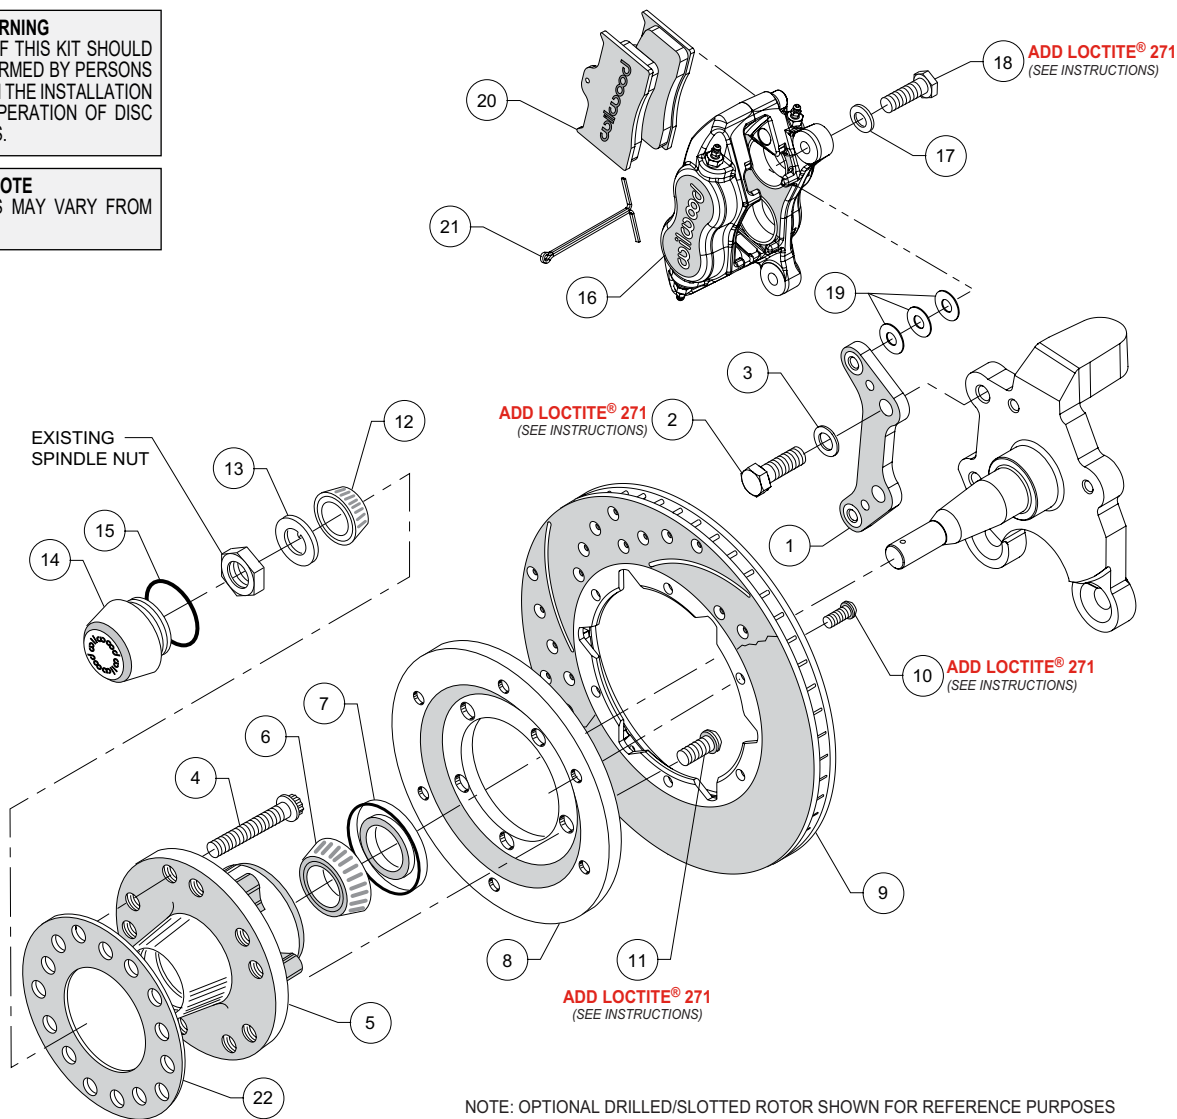

Figure 1. Typical Installation Configuration
NOTE: Numbers in parenthesis refer to the parts list and Figure 1 on the preceding pages.
•Align caliper mounting bracket (1) with the corresponding holes, to the face of the spindle. Attach using bolts (2), and washers (3), as shown in Figure 1 and Photo 1. Temporarily tighten the mounting bolts. Ensure that the flanged heads of the clinch nuts in the bracket are facing outboard, Photo 1. **NOTE:** The bracket must fit squarely against the mounting points on the spindle. Inspect for interference from casting irregularities, machining ridges, burrs, etc. Remove bolts one at a time, apply red *Loctite*® 271 to threads and torque to 77 ft-lbs.
•Install wheel studs (4) into the hub (5), Photo 2. Torque to 77 ft-lb. **NOTE:** There are two five lug patterns in the hub (5 x 4.50 and 5 x 4.75). Ensure the correct hub stud pattern is being used to fit the wheel application.
•Pack the large inner bearing cone (6) with high temperature disc brake bearing grease (available from your local auto parts store) and install into the backside of the hub (5), Photo 3.
•Install the grease seal (7) by pressing into the backside of the hub (5), flush with the end of the hub, Photo 3.
- Orient the rotor (9) and the rotor adapter (8) as shown in Figure 1 and Photo 4. Attach the rotor to the adapter using bolts (10). Using an alternating sequence, apply red *Loctite*® 271 to the threads, and torque to 25 ft-lb.
- Mount the adapter/rotor assembly (8/9) to the hub (5) using bolts (11), as shown in Figure 1 and Photo 5. Using an alternating sequence, apply red *Loctite*® 271 to the threads, and torque to 45 ft-lb.
- Pack the small outer bearing cone (12) with high temperature disc brake bearing grease and install into hub (5). Slide the hub/rotor assembly onto the spindle. Secure using spindle washer (13) and OEM spindle nut, Photo 6. Adjust bearings per OEM specifications. Install saved OEM nut lock (if any) and a new cotter pin (not supplied).
- Screw dust cap (14) into hub (5), Photo 7. Friction created by the o-ring (15) on the dust cap keeps it from unscrewing. **NOTE:** *The O.D. of the existing OEM spindle washer may be larger than the I.D. of the dust cap not allowing it to seat against the hub face. Therefore, use the spindle washer (13) supplied with the kit instead of the OEM washer.*
- NOTE:** *Please reference the caution statement at the beginning of the assembly instructions.* Mount the caliper (16) onto the caliper mounting bracket (1) using bolts (18) and washers (17), as shown in Figure 1. Initially place three .035" thick shims (19) on each bolt between the caliper and the bracket, Photo 8. Temporarily tighten the mounting bolts and view the rotor (9) through the top opening of the caliper. The rotor should be centered in the caliper, Photo 9. If not, adjust by adding or subtracting shims between the bracket and the caliper. Always use the same amount of shims on each of the two mounting bolts. **NOTE:** *The end of each bolt must be flush with or slightly protruding from the head of the clinch nut, as shown in Figure 3. If necessary place spare shims between washer (17) and caliper mounting ear to achieve the proper clinch nut engagement. Once the caliper alignment and clinch nut engagement are correct, remove the bolts (18) one at a time, apply red *Loctite*® 271 to bolt threads, and torque to 40 ft-lb.*
- Install the disc brake pads (20) into the caliper, with the friction material facing the rotor (9), and secure in place using cotter pin (21), Photo 10.
- Temporarily install wheel and torque lug nuts to manufacturer's specification. Ensure that the wheel rotates freely without any interference. **NOTE:** *Wheel spacer (22) MUST be used if any wheel contact surfaces overhang the outside diameter of the hub face. See warning on page 3.*